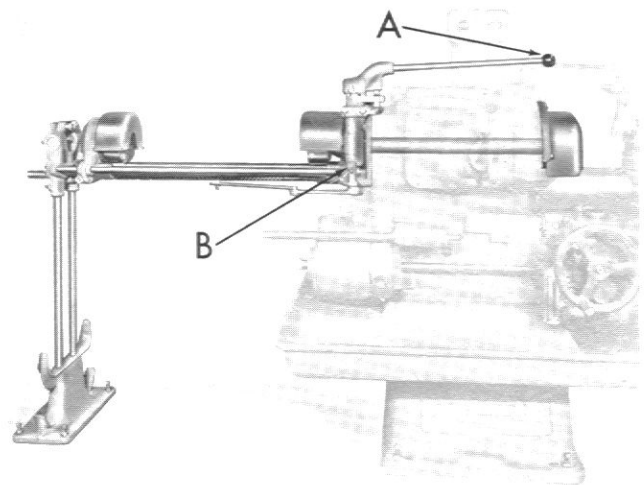

Figure 14 - Manually Operated Collet Chuck and Bar Feed
A single lever A shown in figure 14 operates the stock feed and the collet chuck.
2. Hold lever B down with the left hand to keep the ratchet action reversed for the return of the stock feed chuck. (See figure 14.)